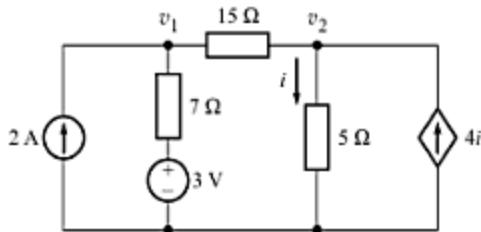

Fig. A-121
- A-88. Use superposition principle to obtain the voltage across each current source in the circuit of Fig. A-121. [Ans. $v_1 = 11.147$ V; $v_2 = -1.394$ V]